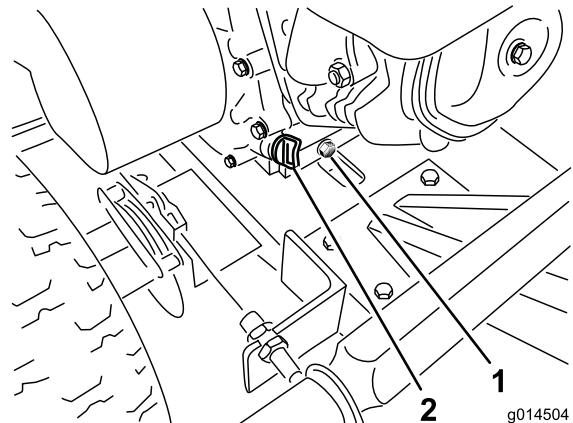

Figure 16
5. Remove the drain plug and drain the oil through the hole slot in the frame (Figure 16).
7. Remove the oil fill cap and slowly pour approximately 80 percent of the specified amount of oil into the engine (Figure 16).